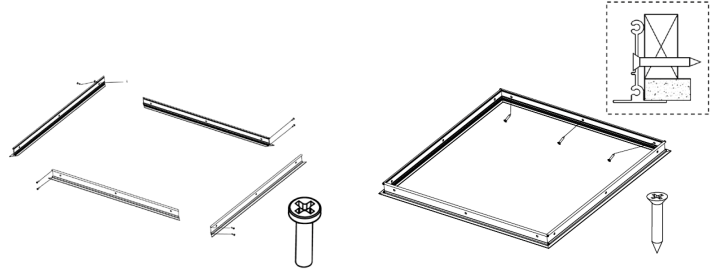

Fig. 9
1. Assemble the 4 frame sections with the provided self tapping screws (Fig. 9)